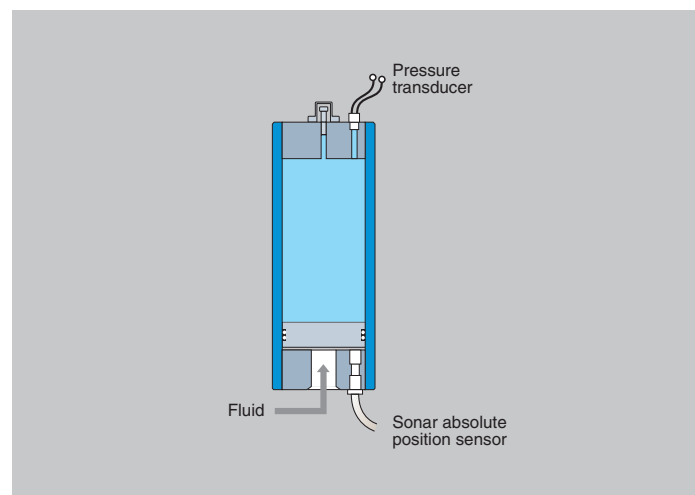

Fig.14b Position sensor can provide continuous indication of precharge pressure
Several methods can be used to monitor the precharge pressure of Parker's piston accumulators. Note that, in Figs.14b and 14c, flat pistons must be used to enable the sensors to register their positions.
- With the hydraulic system operating. A piston position sensor is installed in the hydraulic end cap (Fig.14b) and connected to an electronic measuring system. With an accurate initial precharge and after sufficient system operation to ensure thermal stability, the electronics can be calibrated to provide a continuous and accurate read-out of precharge pressure.